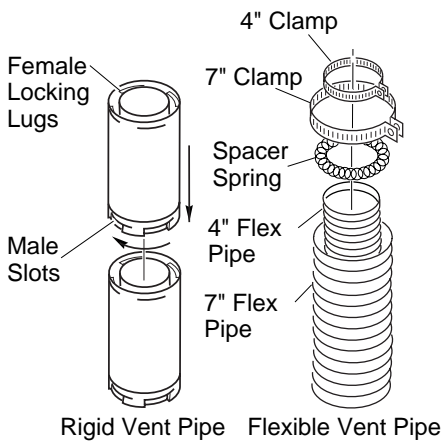

Figure 13 - Vent Pipe Connections
Twist-lock Procedure: The female ends of the pipes and fittings have four locking lugs (indentations). These lugs will slide straight into matching slots on the male ends of adjacent pipes and fittings. (All connections must be sealed with high temperature silicone sealant as specified in the second warning statement on page 6.) Push the pipe sections together and twist one section clockwise approximately one-quarter turn until the sections are fully locked. See Figure 13, page 8. *Note:* Horizontal runs of vent must be supported every three feet. Use wall straps for this purpose.
Flexible vent pipe must be installed with spacer springs every 12". See Figure 13, page 8. All connections must be clamped tightly and sealed with high temperature silicone sealant as specified in the second warning statement on page 6.
2. Assemble the desired lengths of pipe and elbows necessary to reach from the fireplace flue up through the firestop. All connections must be sealed with high temperature silicone sealant as specified in the second warning statement on page 6. Be sure all pipe and elbow connections are fully twist-locked (see Figure 13, page 8).